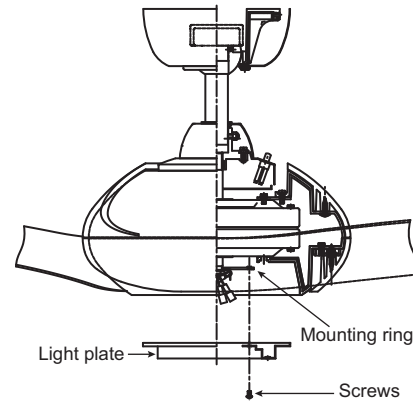

Fig. 19
Step 1. Loosen the two screws on the mounting ring attached to the motor shaft and "remove" and save the third screw. (Fig. 19)